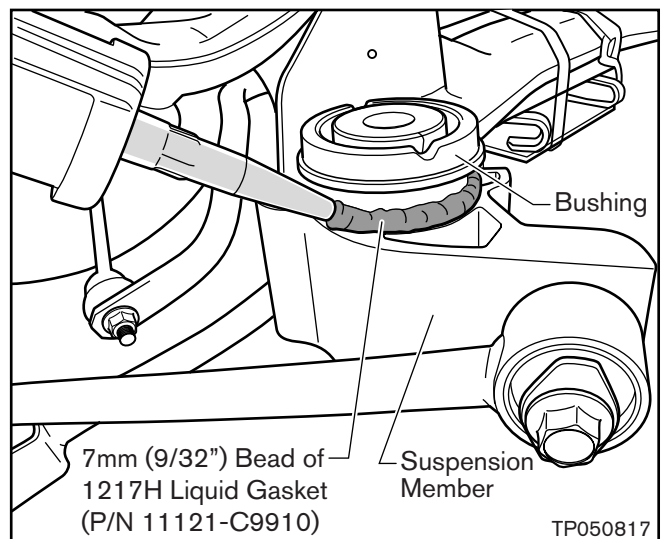

Figure C9
- c. To ensure a good seal, apply a 7mm (9/32”) bead of 1217H Genuine Nissan Liquid Gasket (P/N 11121-C9910) around the bushing as shown in Figure C9.